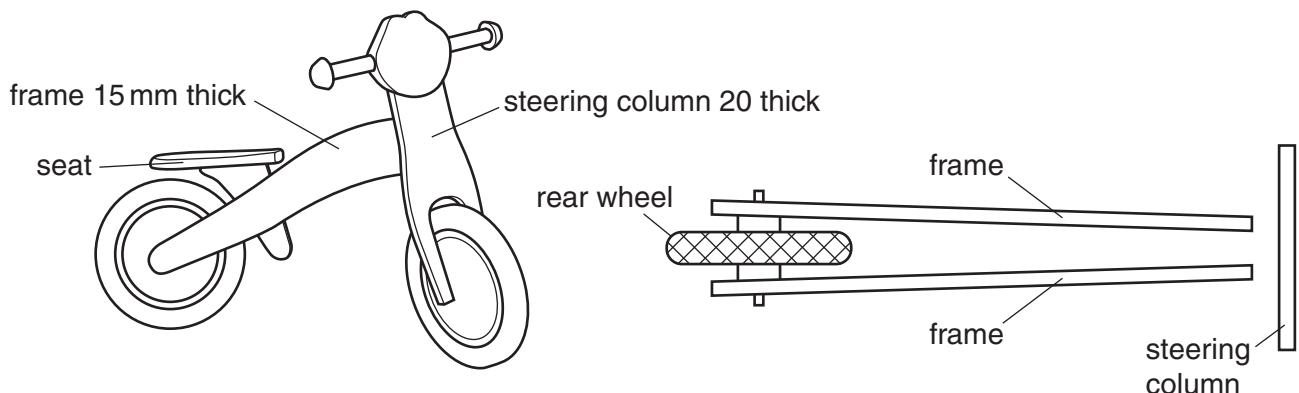

Fig. 4
- 3 Fig. 4 shows details of a sit-on toy made mainly from plywood.
- (c*)** Explain how CAD could be used to produce a set of instructions to enable customers to assemble the sit-on toy shown in Fig. 4.